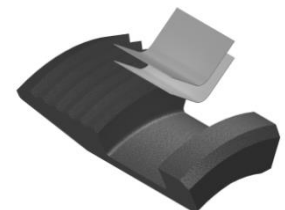

Fig. 3
**NOTE5:** Install two (2ea) springs per slip (Fig. 3).